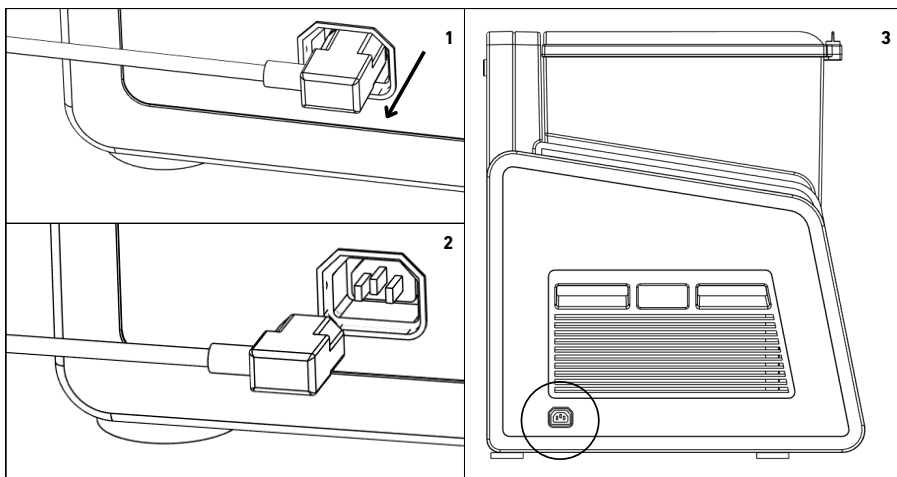

Figure 27
21.7.1. Carefully disconnect the power cord from the device as shown in Figure 27.